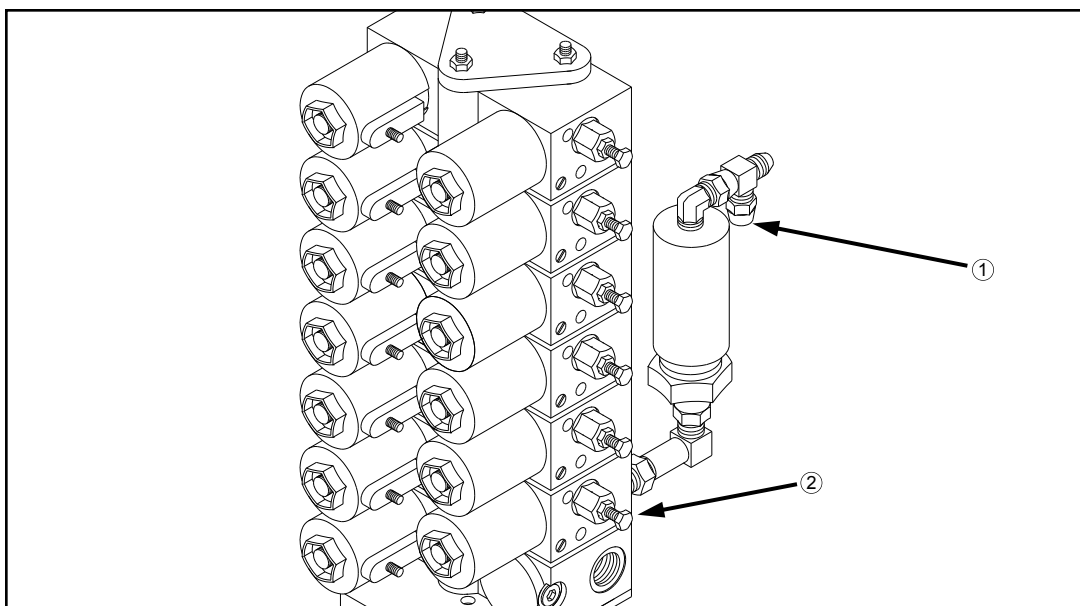

FIG 5.20
Install a 3,000 PSI pressure gauge on the inlet of the electro-hydraulic valve (fig. 5.20, item 1). With the engine running at an idle, raise each unit one at a time with the Tasselrol® box while in “MANUAL” mode. Observe the pressure. Adjust each lift cylinder to 1000 PSI.
To increase the pressure of a given lift cylinder, turn the adjustable screw (fig. 5.20, item 2) on the raise orifice clockwise. To decrease the pressure of a given cylinder, turn the adjustable orifice screw counter-clockwise.